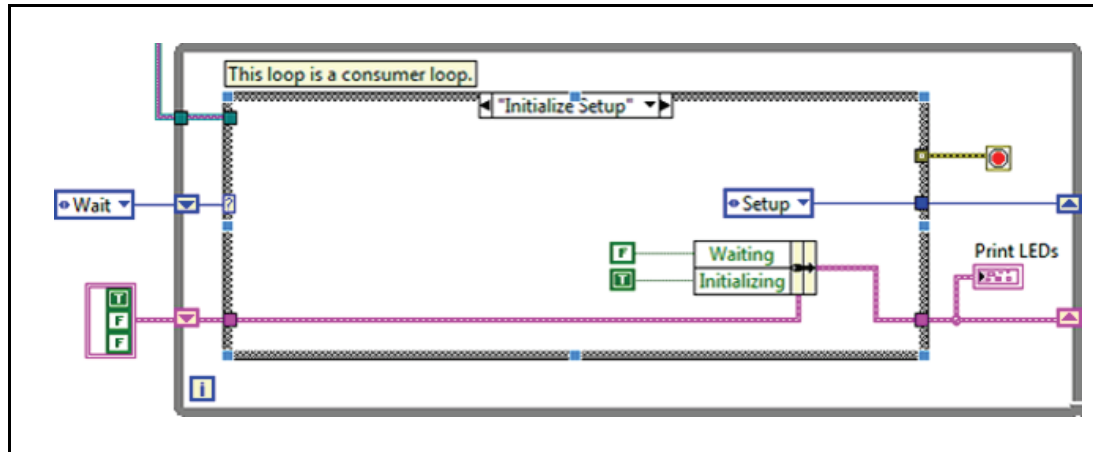

Figure 5. Consumer Loop—Initialize Setup Case
2. Refer to Figure 5 to create the Initialize Setup case.